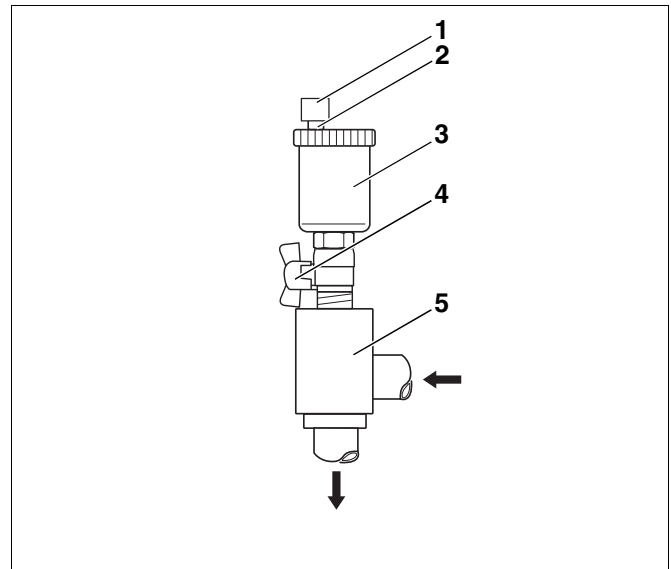

Fig. 15 Automatic air vent valve
- ▶ Close the ball valve (Fig. 15, **Item 4**).
- ▶ Unscrew and clean the automatic air vent valve (Fig. 15, **Item 3**).
- ▶ Open the ball valve (Fig. 15, **Item 4**).
- ▶ When using an automatic air vent valve (accessory), vent the solar heating system by opening the ball valve (Fig. 15, **Item 4**).